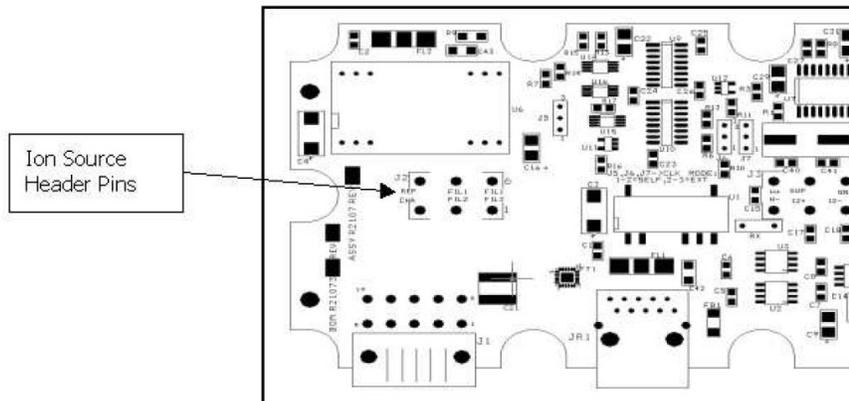

Figure 3-11. Ion source header pin schematic
26. On the PCB, use the resistance meter to verify an open circuit between any two of the six ion source header pins (except FIL-1 to FIL-1 and FIL-2 to FIL-2 which should be 0.3 Ohms or less). Also verify an open circuit between the body of the spectrometer and any of the ion source header pins (Figure 3-11). If there is continuity (short circuit) at any of the points, remove the header and inspect for shorting.